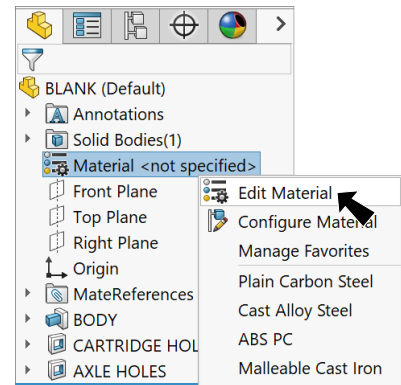

Fig. 28
Step 1. Right click **Material** in the Feature Manager and click **Edit Material**, Fig. 28.